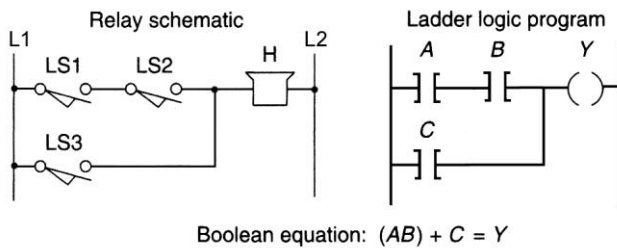

Figure 4-25 Program for assignment 5.
5) Program the relay schematic of Figure 4-25 using your PLC, and simulate its operation.